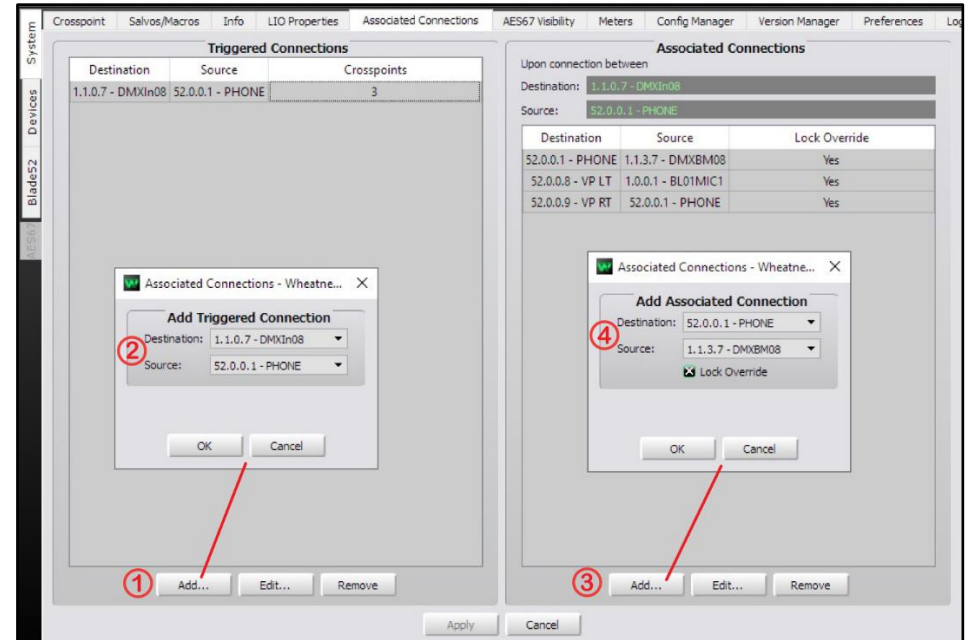

Figure 3-19 Associated Connections Tab
This type of AC is shown in Figure 3-19, but one can automate many other system connections in response to a predefined trigger connection. One can also setup a trigger on a Disconnect like removing a crosspoint or taking NoSource on a fader channel. Additional details on Associated Connection applications can be found on page 43.
Setting up an AC is a four-step process, as shown in Figure 3-19. In the tab’s **Triggered Connections** section, click the *Add...* button (1) to open the *Add Triggered Connection* dialog box (2) where a source and destination are selected. In the example, the triggered connection is the PHONE being taken on channel 8 (DMXIn08). Clicking *OK* adds that entry to the Triggered Connections list and closes the dialog box.
As shown in Figure 3-19, multiple Associated Connections can be assigned to the same trigger. In the example, when the PHONE is taken on channel 8, the channel 8 bus-minus signal is connected to the PHONE plus the caller and host mic audio are connected to a VoxPro editor (the host mic, BL01MIC1, connects to the left channel and the incoming PHONE audio connects to the right channel of the VoxPro output).